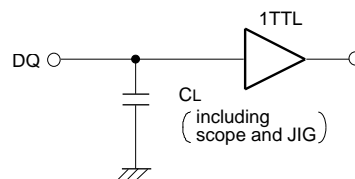

Fig.1 Output load
(1) MEASUREMENT CONDITIONS
- Output loads Fig.1, CL=30pF